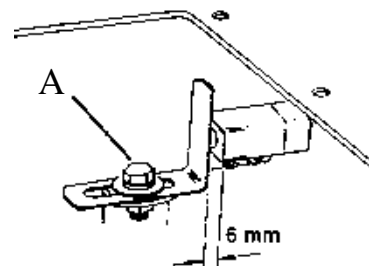

Figure 6.16 Clutch brake safety switch
2. Loosen the spring tab retaining bolt (A) and adjust the position of the spring tab located on the park brake rod, to give a clearance of 6mm between the safety switch body and the spring tab. Figure 6.16